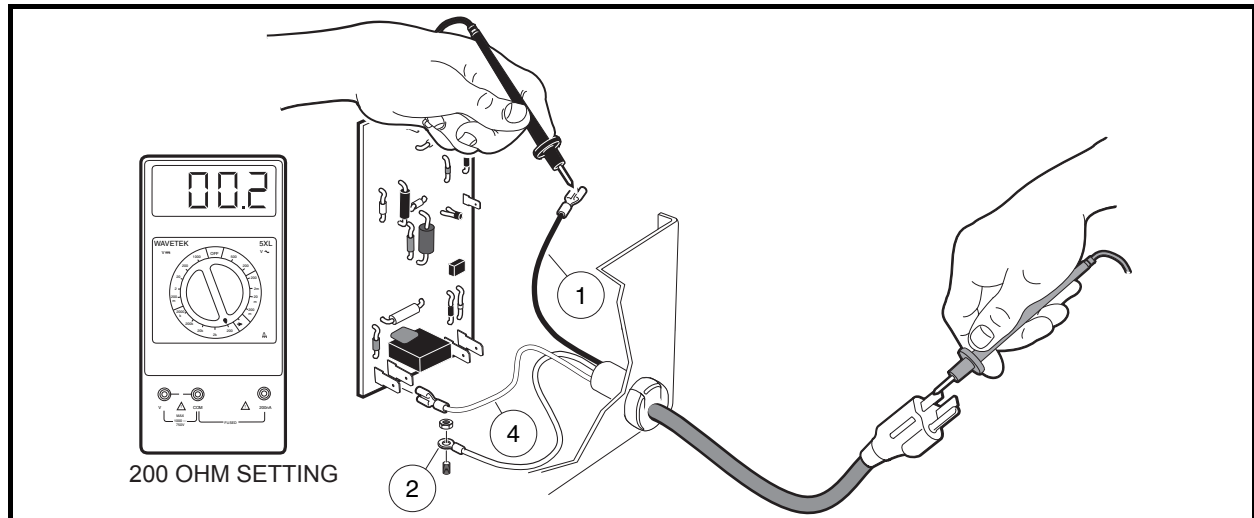

Figure 4-20 Short AC Cord Test
6. Using a continuity tester (CC P/N 1011273) or multimeter set to 200 ohms, connect the test probes to the DC cord black wire and the DC cord red wire (**Figure 4-20, Page 4-21**). Note the reading.
7. Reverse the test probes and check the DC cord again (**Figure 4-20, Page 4-21**). The circuit should show continuity in only one direction.
6. Disconnect the green wire (2) from charger case and position it so it does not touch any metal part of the charger (**Figure 4-20, Page 4-21**).